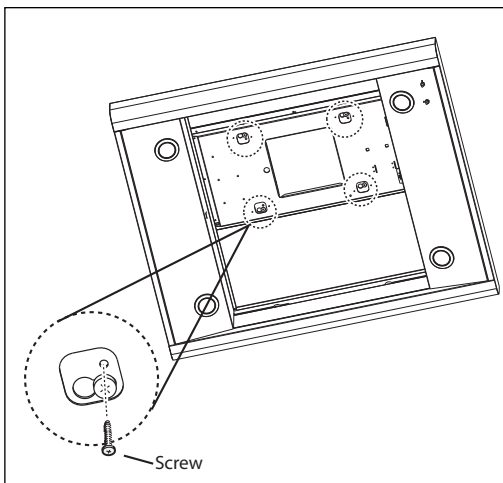

FIG.7
7. Tighten screws securely (from inside the canopy). Fix canopy to structure with 4 screws from inside the canopy. See Fig. 7.